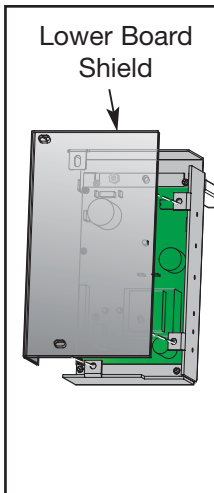

Figure 9
**A.** Pull out on the lower board shield. See Figure 9.
- E. Place the shield into position and push in (the shield will snap in). See Figure 9.
- A. Pull out on the lower board shield. See Figure 9. **NOTE: It will snap out.**